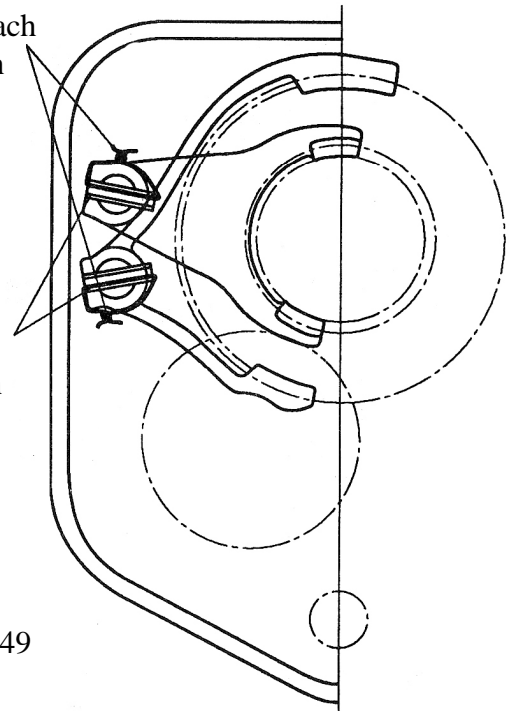

Fig.5-49
- Install spring(roll) pins so that their seams are positioned as illustrated in Fig.5-49
(2) Reassembly of sub-change gears (speed range shift)